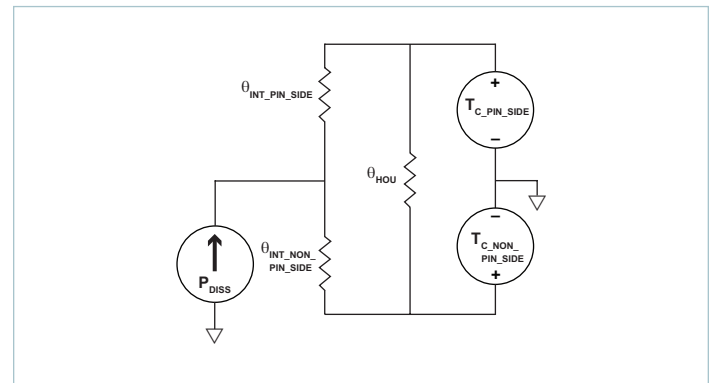
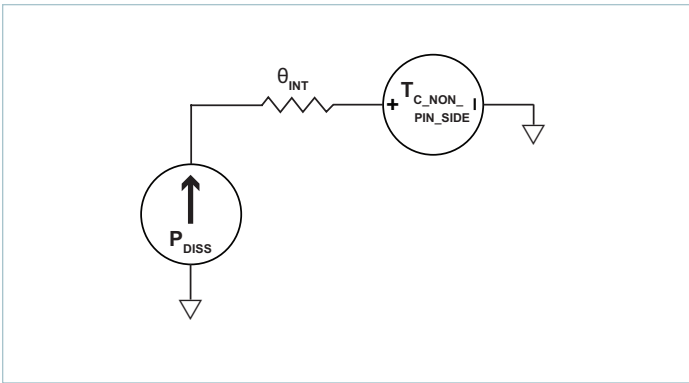

Figure 22 — Double-sided cooling VIA thermal model
Figure 23 — Single-sided cooling VIA thermal model
The VIA package provides effective conduction cooling from either of the two module surfaces. Heat may be removed from the pin-side surface, the non-pin-side surface or both. The extent to which these two surfaces are cooled is a key component for determining the maximum power that can be processed by a BCM, as can be seen from the specified thermal operating area in Figure 1. Since the BCM has a maximum internal temperature rating, it is necessary to estimate this temperature based on a system-level thermal solution. For this purpose, it is helpful to simplify the thermal solution into a roughly equivalent circuit where power dissipation is modeled as a current source, isothermal surface temperatures are represented as voltage sources and the thermal resistances are represented as resistors. Figure 22 shows the "thermal circuit" for the BCM in a VIA package.
- **Single-side cooling:** the model of Figure 22 can be simplified by calculating the parallel resistor network and using one simple thermal resistance number and the internal power dissipation curves; an example for non-pin-side cooling only is shown in Figure 23.